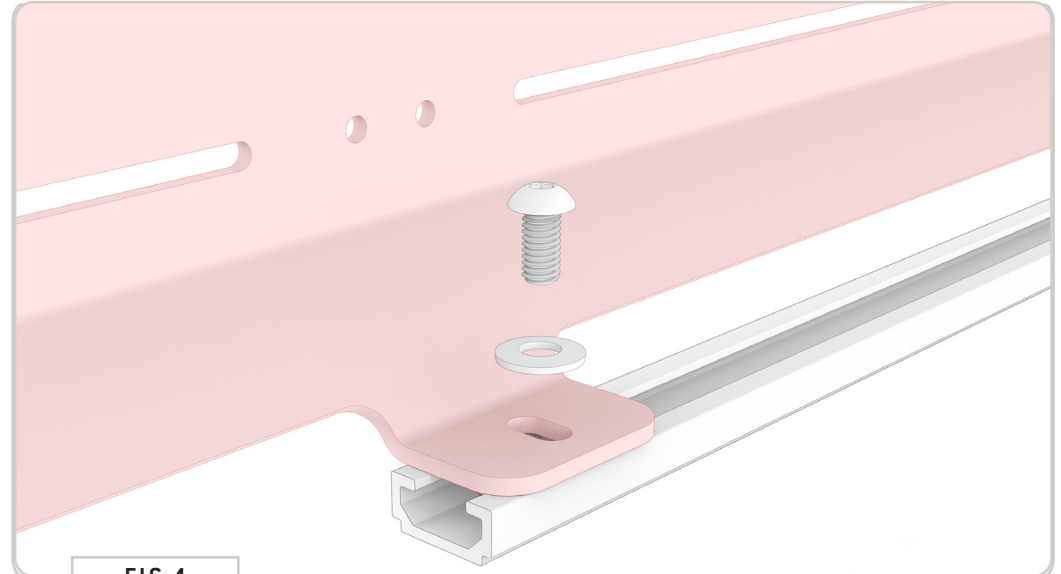
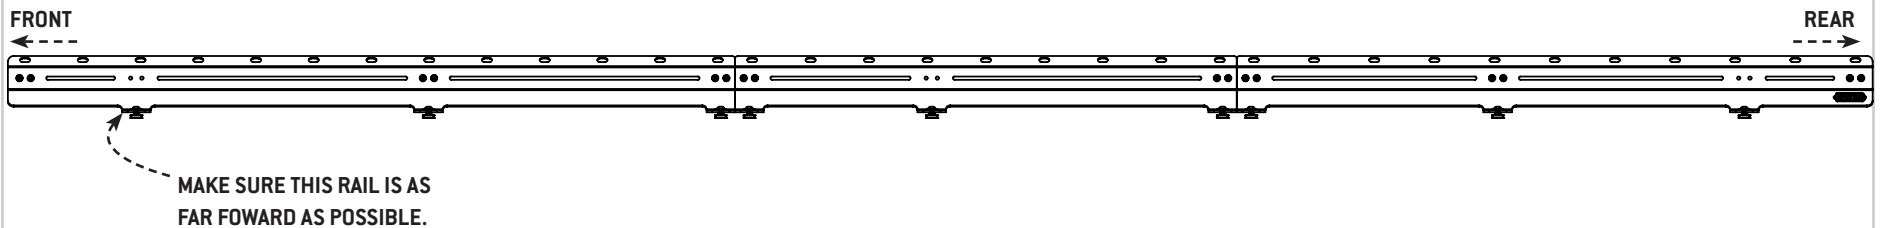

FIG 4
FIG 5
**2.1 Install Side Rails:** Beginning with the forward section of the rack (see FIG 5 for layout), start loosely attaching the side rails to the roof rails using the **3/8-16" Button Head Screws & 3/8" Lock Washers**, but do not tighten them all the way down (FIG 4).